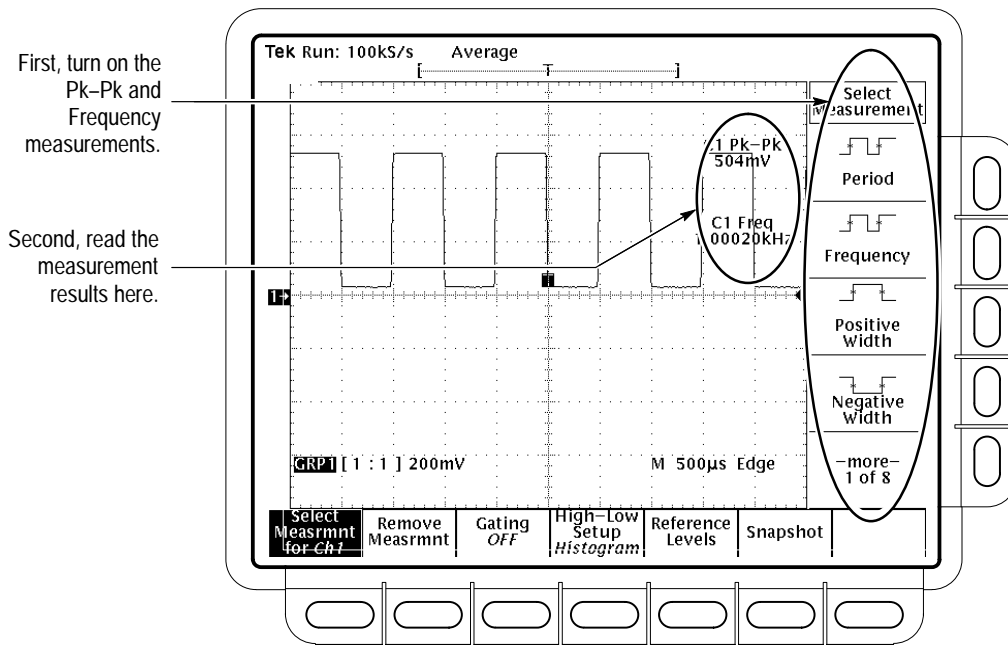

Figure 4–22: Measurement of Probe Compensator Limits
- c. Repeatedly press the side-menu button **–more–** until **Frequency** appears in the side menu. Press **Frequency**. (See Figure 4–22.)